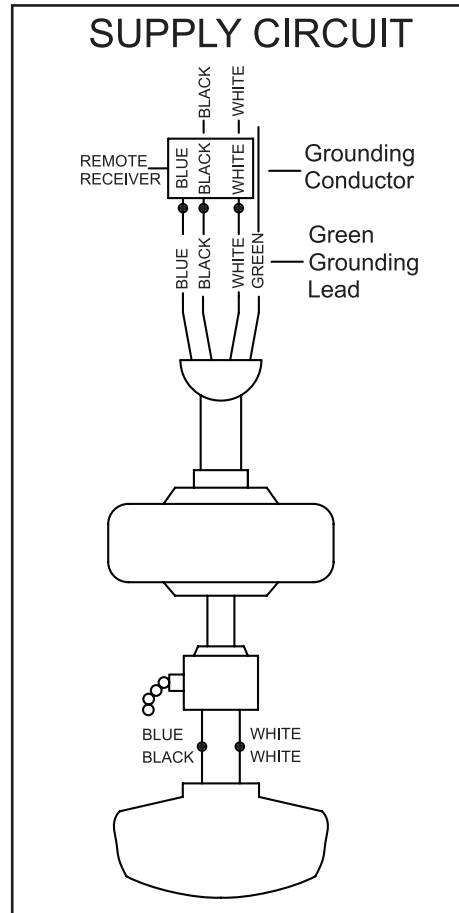

Figure 8
Follow the steps below to connect the fan to your household wiring. Use the wire connecting nuts supplied with your fan and supplied with remote control. Secure the connectors with electrical tape. Make sure there are no loose strands or connections (Figure 8).
1. Connect the ground conductor of the 120v supply (this may be a bare wire or a wire with green colored insulation) to the green ground lead(s) of the fan (Figure 8).
2. Connect the fan motor white wire to the receiver white wire using a wire nut (Figure 8).
3. Connect the fan motor black wire to the receiver black wire using a wire nut (Figure 8).
4. Connect the fan motor blue wire to the receiver blue wire using a wire nut (Figure 8).
5. Connect the receiver black wire to the supply black (hot) wire using a wire nut (Figure 8).
6. Connect the receiver white wire to the supply white wire (neutral) wire using a wire nut (Figure 8).